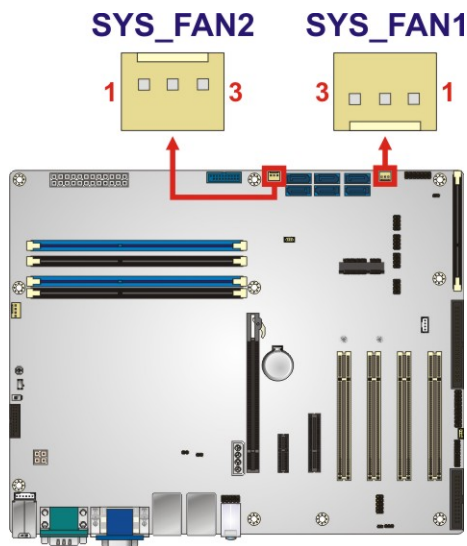

Figure 3-11: System Fan Connector Locations
**CN Location:** See Figure 3-11